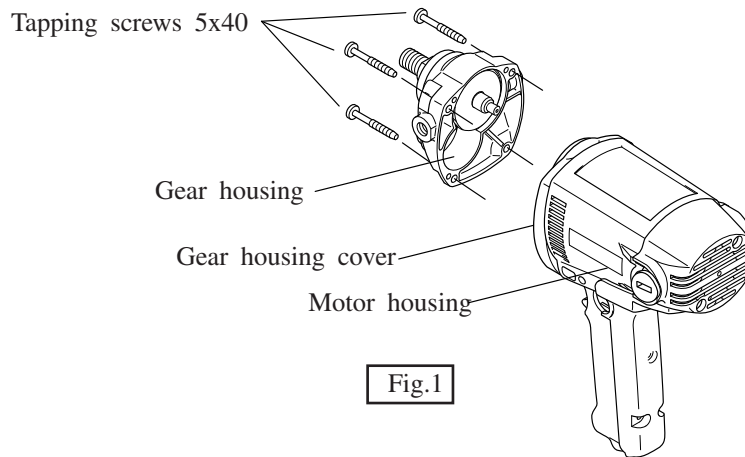

Fig.1
(1) Disassembling gear housing by unscrewing 4 pcs. of tapping screws 5x40. See Fig.1.